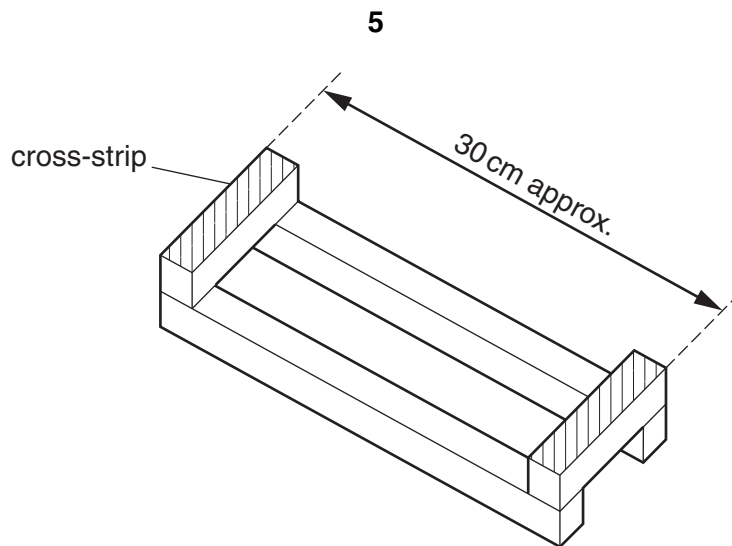
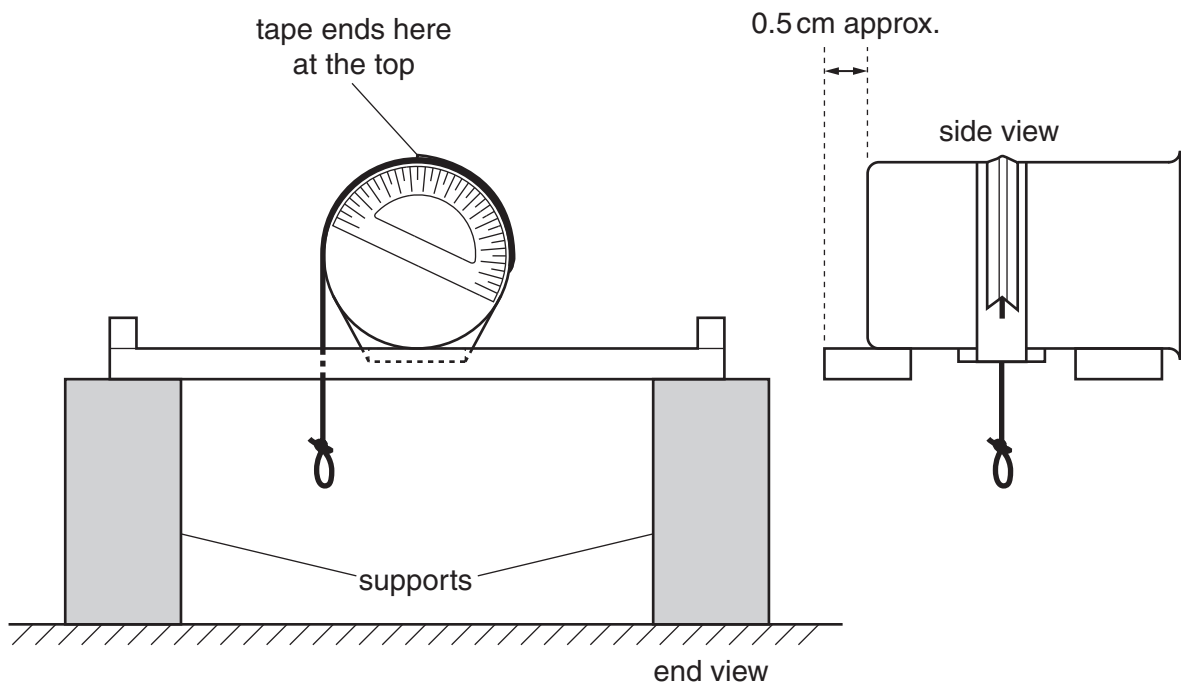

Fig. 1.2
Fig. 1.3
- 6 The wood strips should be fixed parallel to each other using two cross-strips, as shown in Fig. 1.2. Their spacing should be suitable for the apparatus arrangement shown in Fig.1.3, with a gap greater than the diameter of the attached masses.
- 7 The apparatus should be arranged as shown in Fig. 1.3, and returned to this state if it is to be used by another candidate.